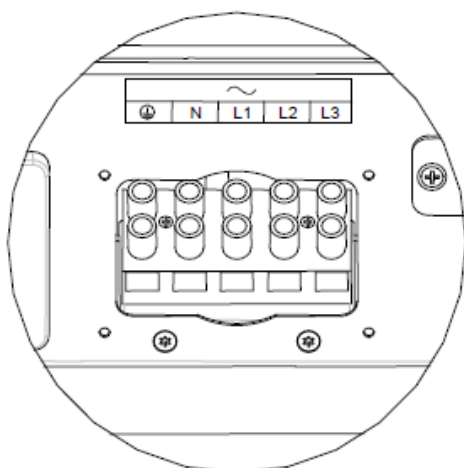

Fig.5.1.9
- 1) The AC side terminals of the inverter are like Fig.5.1.9, it is clear to confirm that 'L1, L2, L3' represents three live line output, 'N' represents neutral line and \perp is grounding line.